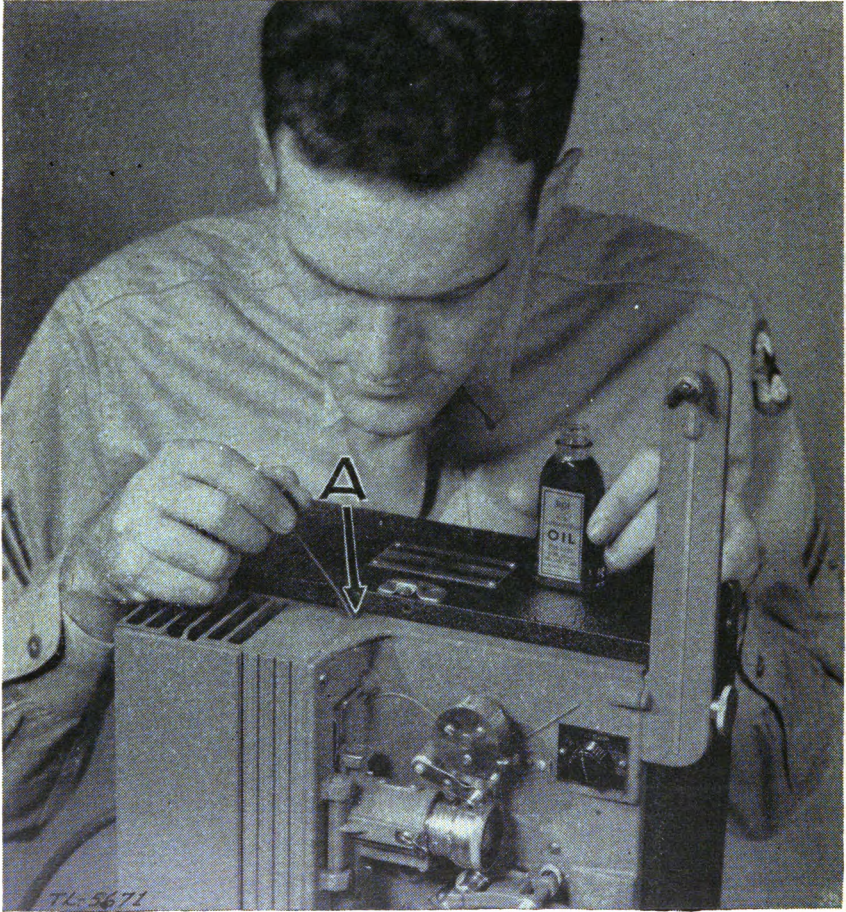

FIGURE 59.—Oiling system for R. C. A. projector.
*d. R. C. A.*—Before each showing, place five drops of oil in channel A. This provides complete lubrication for all moving parts. (See fig. 59.)